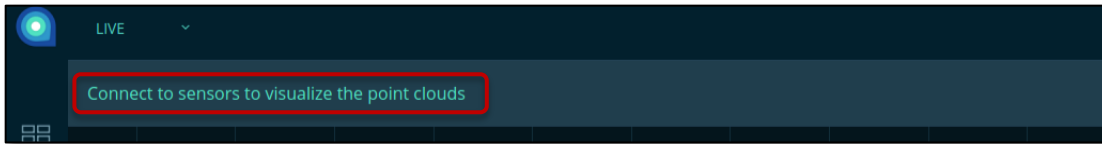

Figure 32. Visualize Tab: Connect to Sensors Message
The Visualize tab allows the user to verify that a particular sensor is producing a point cloud. The point cloud is displayed to confirm that the sensor is perceiving what you expected it to perceive. If there are any problems, the point cloud can help you diagnose and address the root cause. For optimal results in visualizing point clouds, Quanergy recommends connecting to up to 18 sensors in single return mode. See Figure 32. Visualize Tab: Connect to Sensors Message.
If the panel is a blank grid with an advisory message, then zero sensors are Connected. See Figure 32. Visualize Tab: Connect to Sensors Message.
- If no sensors are **Connected**, a message appears instead of sensor buttons: “Connect to sensors to visualize the point clouds”. See Figure 32. Visualize Tab: Connect to Sensors Message.